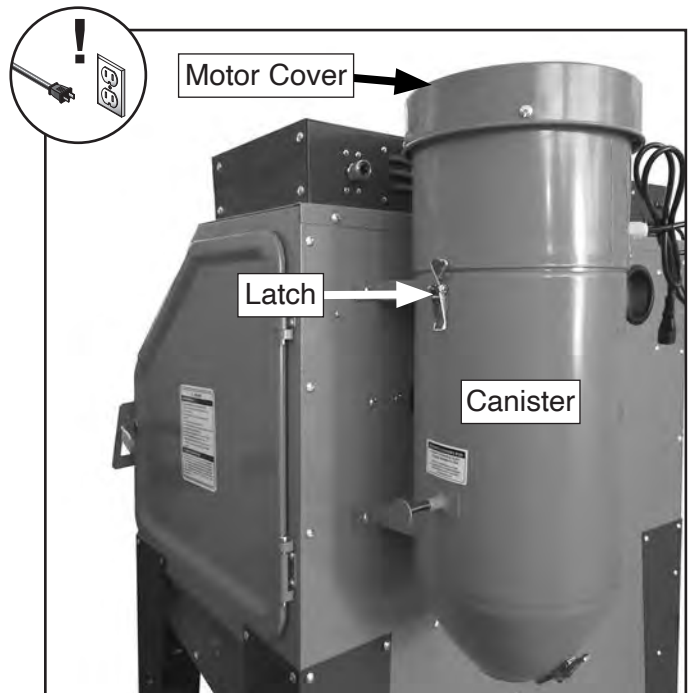

Figure 29. Motor cover.
2. Unlatch dust collector and lift entire motor and filter unit out of canister and place it on workbench for ease of service (see **Figure 29**).
3. Remove (4) motor cover screws and cover (see **Figure 29**).